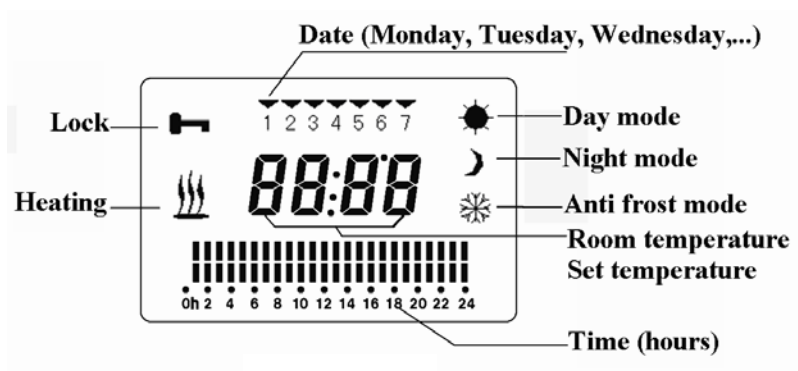

Figure 8
- Figure 8 show that the first two bars is for the first hour to set (0 to one in the morning) flash intermittently. The weekly calendar indicates “1” for Monday (first day to program).